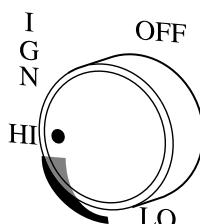

Figure 24: HI/LO Position
10. Push in control knob and turn counterclockwise  to the "HI" setting. At this location the knob will pop out when positioned correctly. The knob can now be positioned at any position from "HI" to "LO". Refer to *Figure 24*.